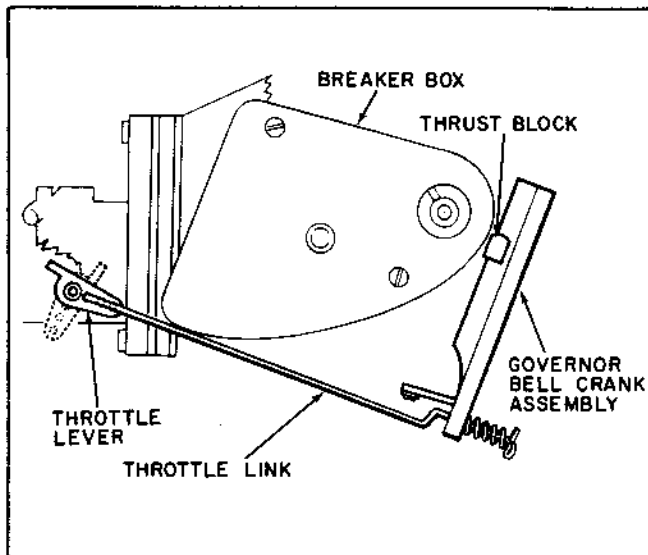

Figure 5-11. Checking Flywheel Mounted Governor Adjustment
- (5) If carburetor is equipped with throttle lever (Fig. 5-11) having more than one hole, place throttle link in hole nearest lever pivot point as shown. When throttle is in the open position, thrust block must clear breaker point box by at least $1/32$ inch but not more than $1/16$ inch. Make sure all parts move freely when thrust block is moved up and down.